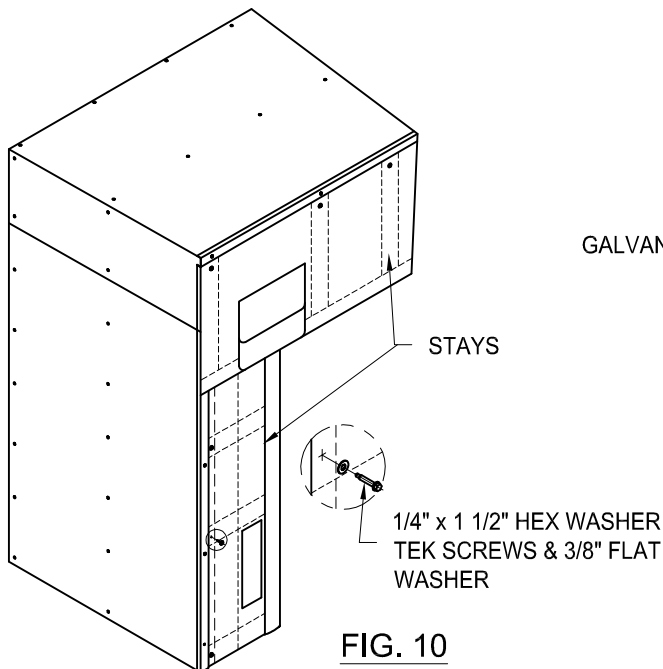

FIG. 10
- * Using 1/4" x 1 1/2" hex washer tek screws along with 3/8" flat washers; fasten vertical panels and header curtain by screwing through the center of each stay, close to the trim angle (fig. 10).